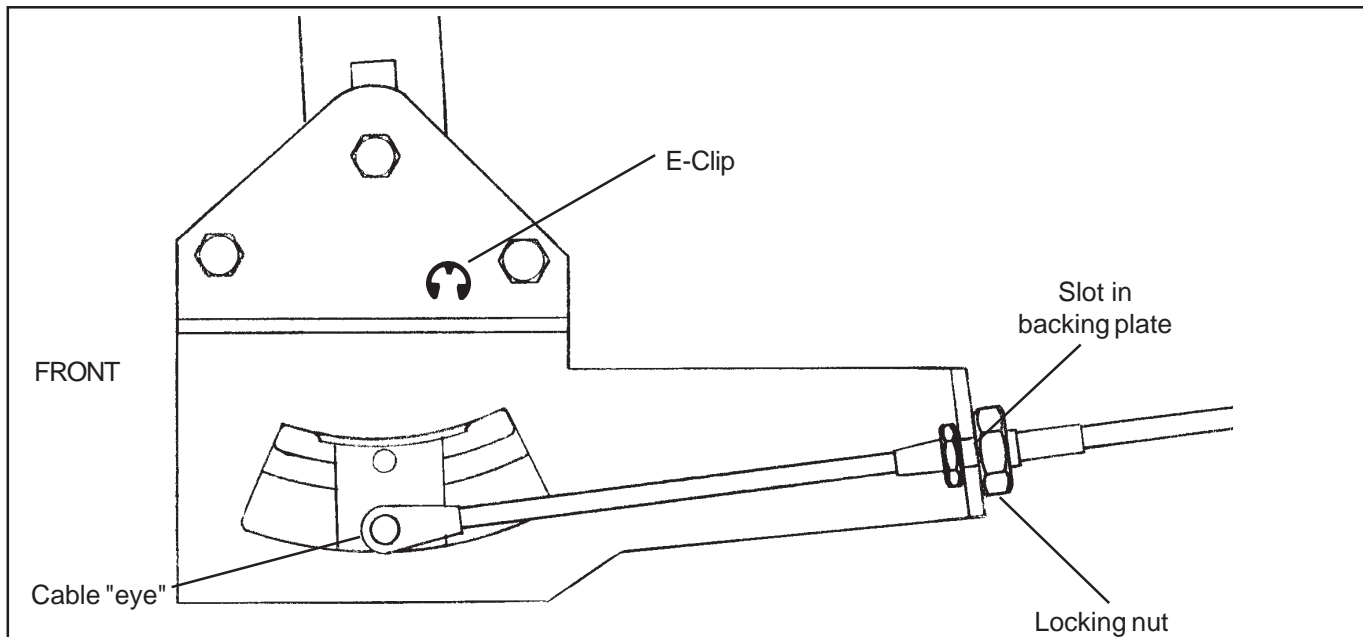

Figure 1
**STEP 6.** Attach the cable to the shifter. The end of the cable with the small fixed hex and the large nut attaches to the shifter. Loosen the locking nut on this end of the cable sheath and slide the cable into the slot on the shifter backing plate (**See Figure 1**). Put the "eye" over the cable pin. Tighten the locking nut on the cable to 10 lb-ft. Do not overtighten. Use the supplied e-clip to hold the "eye" in place.